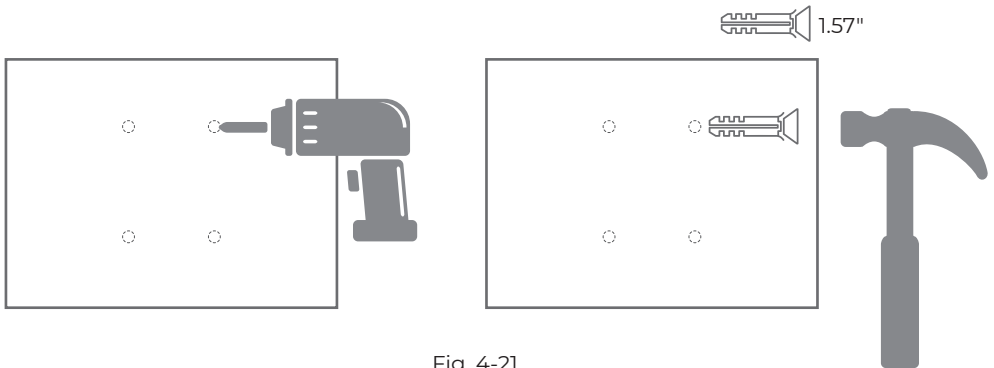

Fig. 4-21
3. Drill the mounting holes on the wall with a depth of at least 1.57" (40 mm), and hammer the plastic expansion anchors into the holes. (See Fig. 4-21)